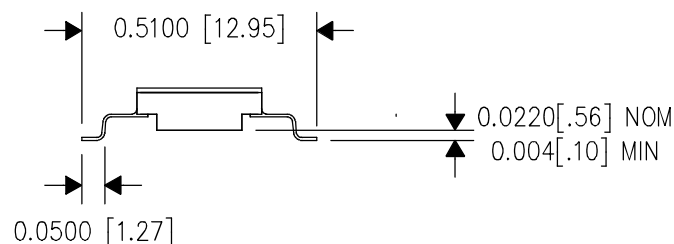
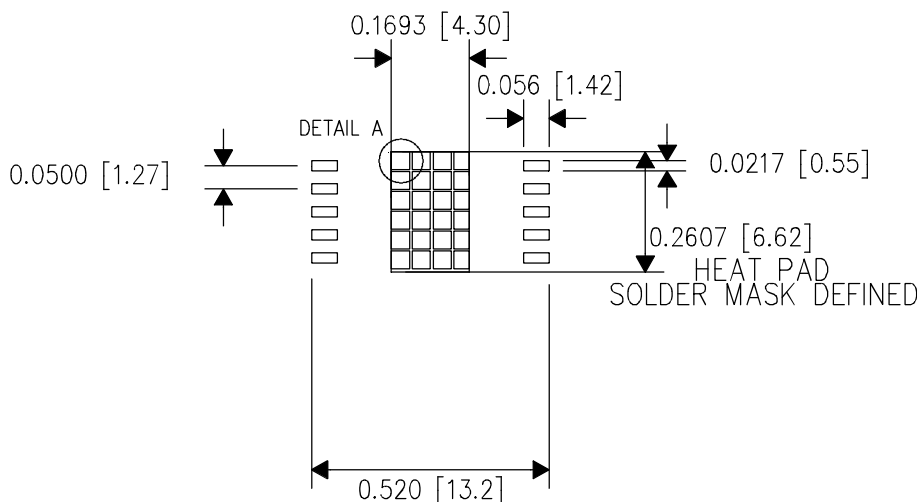
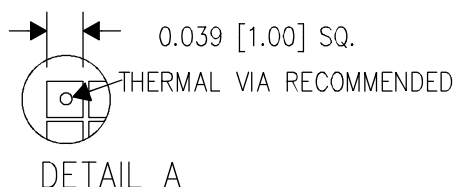

Figure 29. Typical HKU Package With Leads Form
Figure 30. Typical Thermal Via Footprint
Figure 31. Typical Thermal Via Details
- The exposed thermal vias of the HKU package should be connected to a wide ground plane for effective heat dissipation. Refer to Figure 29, Figure 30, and Figure 31 for the typical footprint of the HKU package.